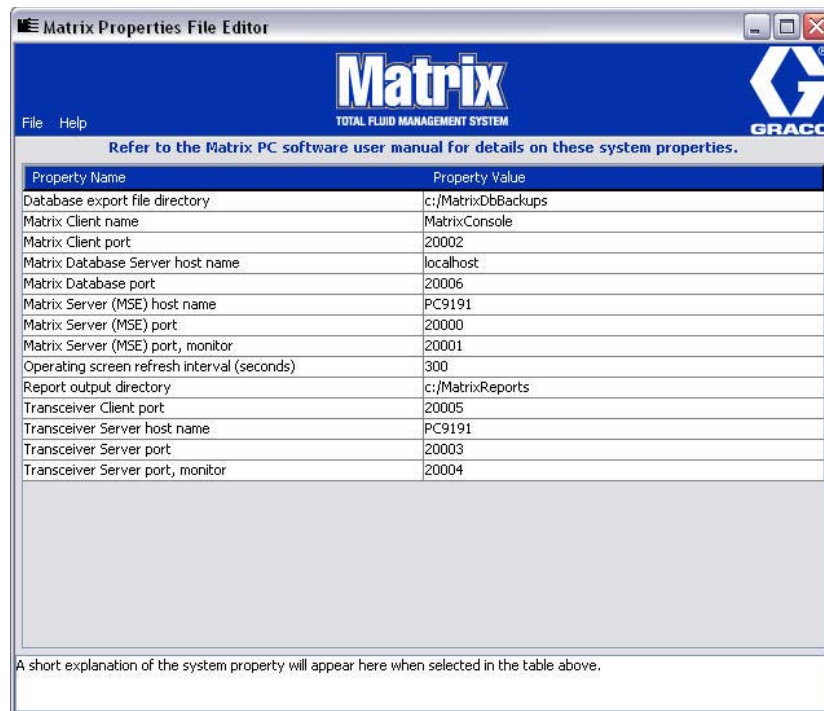

FIG. 32
2. The editor appears as a two-column list of system properties, with property names on the left and their editable values on the right (FIG. 32). When you select a property by clicking on it, the bottom panel of the screen shows basic information about that property.